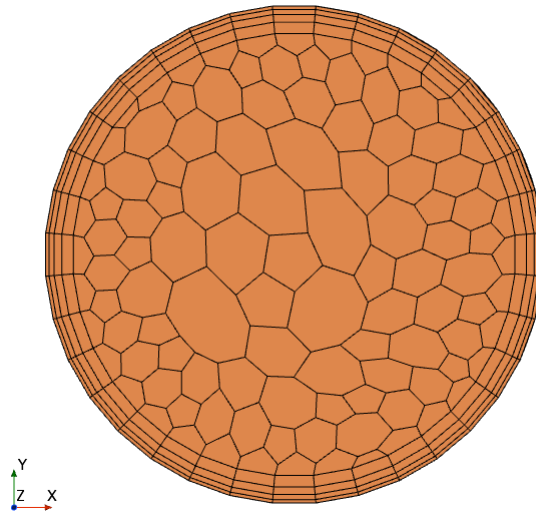

Figure 7: Mesh on outlet surface that is created with a base size of 0.5 cm and four prism layers. All other mesh parameters are set to the default values.
3. Rotate the model in the mesh scene to inspect it. The view normal to the outlet should look like Figure 7.